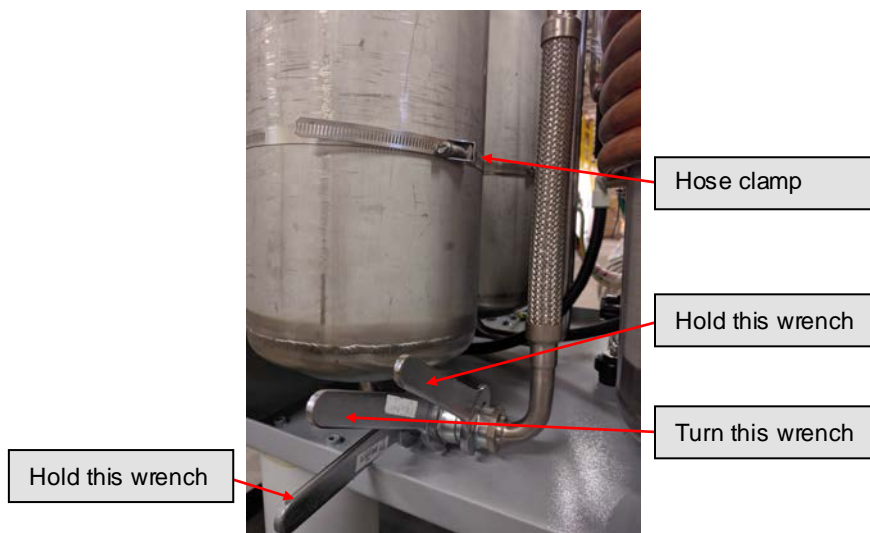

Figure 8-1: Disconnecting the Aeroquip® adsorber
- 4) Using three wrenches disconnect the Aeroquip® coupling between the adsorber and the oil separator as shown in Figure 8-1.